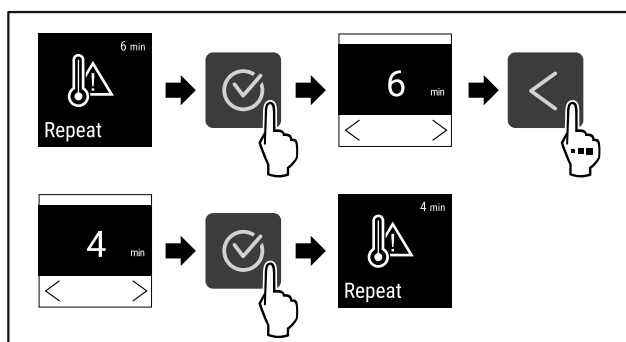

Fig. 134
- ▶ Complete steps (see Fig. 134).